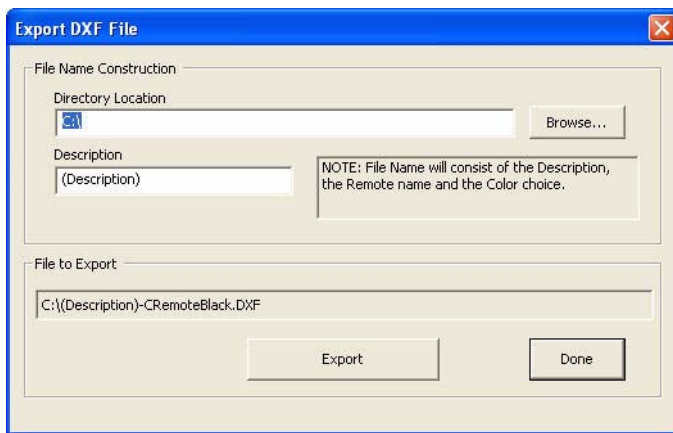

FIG. 22 Export DXF File dialog
6. Click **Export DXF File...** to open the *Export DXF File* dialog (FIG. 22) to create the .DXF file necessary for engraving.